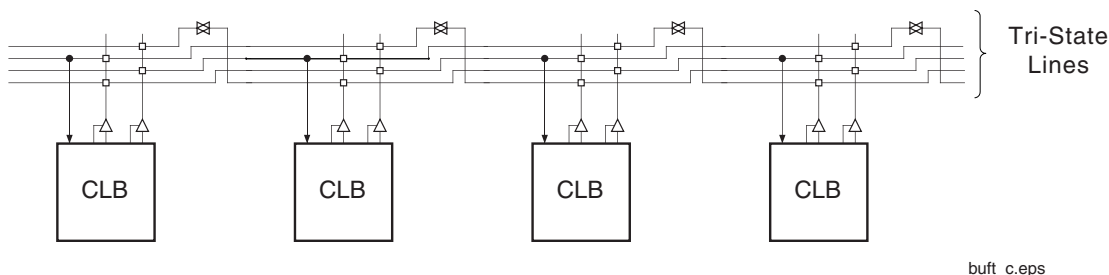

Figure 8: BUFT Connections to Dedicated Horizontal Bus Lines
- Horizontal routing resources are provided for on-chip 3-state busses. Four partitionable bus lines are provided per CLB row, permitting multiple busses within a row, as shown in **Figure 8**.